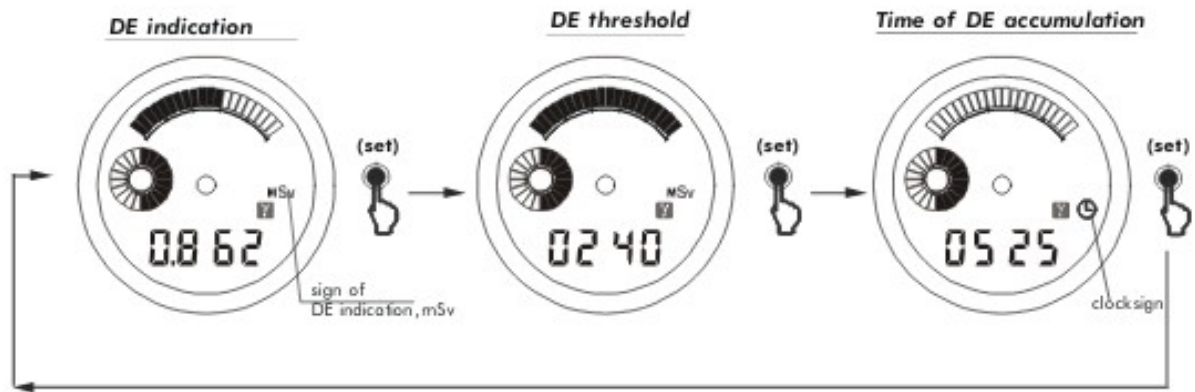

Fig. 2.6
Enter the DE indication as described in paragraph 2.4.1. Then press and release the “set” button (2) to see the following information on the LCD in rotation. (Fig. 2.6):